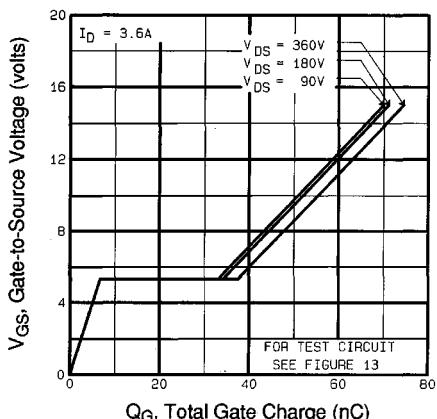

Fig 6. Typical Gate Charge Vs.
| Q_g | Total Gate Charge | — | — | 78 | nC | $I_D=3.6\text{A}$ $V_{DS}=360\text{V}$ $V_{GS}=10\text{V}$ See Fig. 6 and 13 ④ |